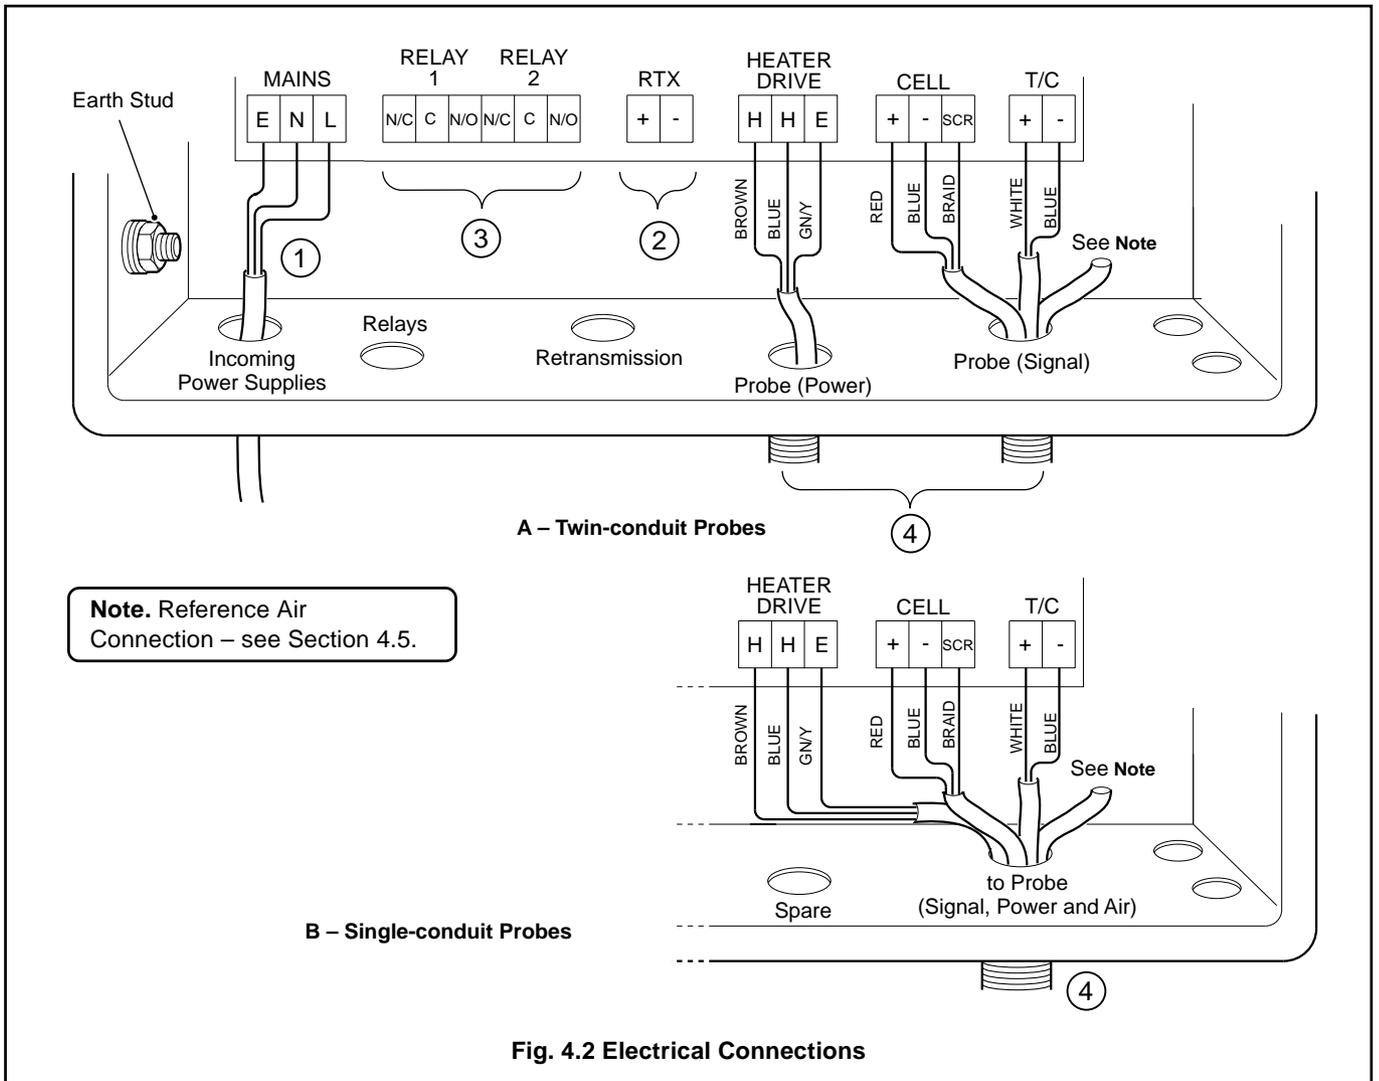

Fig. 4.2 Electrical Connections
- **Earthing (grounding)** – a stud terminal is fitted to the case bus-bar earth (ground) connection – see Fig. 4.2
4.2.3 Connections – Fig. 4.2
- ① Mains: